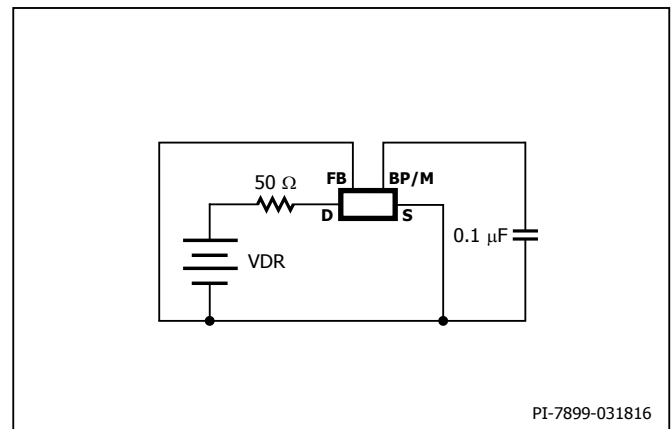

Figure 12. LinkSwitch-TN2 Minimum On-Time Test Circuit.
- Measured using circuit in Figure 12 with 50 Ω drain pull-up. The width of the drain pulse is measured as the time from $V_{FALL} = 42\text{ V}$ to $V_{RISE} = 40\text{ V}$ (VDR = 50 V), for LNK32x6/x5/x4 and as the time from $V_{FALL} = 32\text{ V}$ to $V_{RISE} = 30\text{ V}$ on rising edge (VDR = 35 V), for LNK3202.